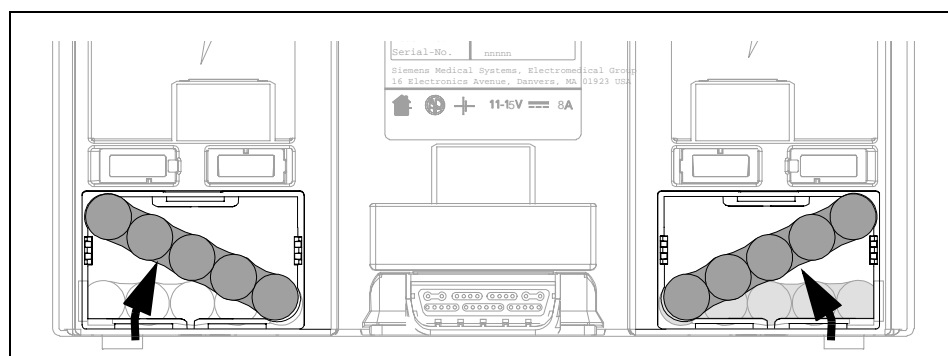

Fig. 3-2 Removing Ni-Cd Battery Packs
- 2) Lift outer side of each battery pack so as to position pack diagonally across rectangular compartment as illustrated in Fig. 3-2.